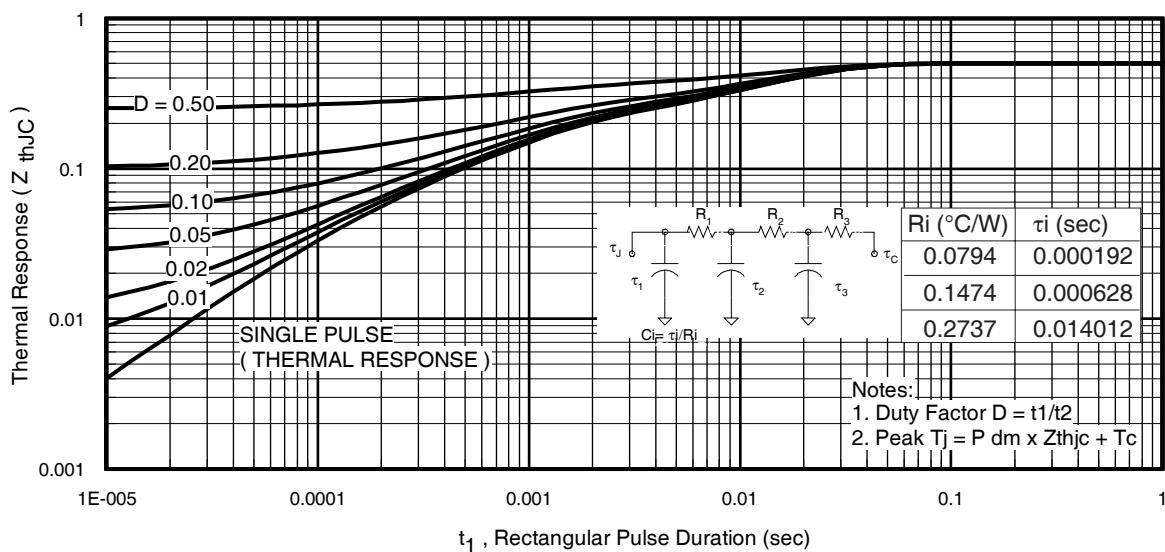
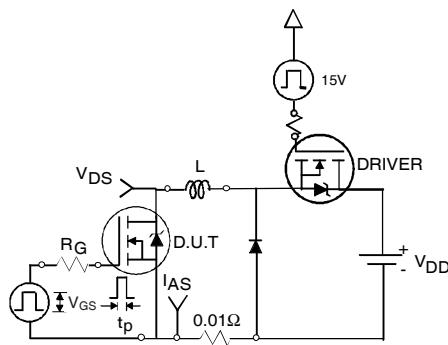

Fig 11. Maximum Effective Transient Thermal Impedance, Junction-to-Case
Fig 12a. Unclamped Inductive Test Circuit
- ① Repetitive rating; pulse width limited by max. junction temperature. (See fig. 11).
- ② Limited by $T_{J\text{max}}$, starting $T_J = 25^\circ\text{C}$, $L=0.043\text{mH}$, $R_G = 25\Omega$, $I_{AS} = 140\text{A}$, $V_{\text{GS}} = 10\text{V}$. Part not recommended for use above this value.
- ③ Pulse width $\leq 1.0\text{ms}$; duty cycle $\leq 2\%$.
- ④ $C_{\text{oss eff.}}$ is a fixed capacitance that gives the same charging time as C_{oss} while V_{DS} is rising from 0 to 80% V_{DSS} .
- ⑤ Limited by $T_{J\text{max}}$, see Fig.12a, 12b, 15, 16 for typical repetitive avalanche performance.
- ⑥ This value determined from sample failure population. 100% tested to this value in production.
- ⑦ This is applied to D²Pak, when mounted on 1" square PCB (FR-4 or G-10 Material). For recommended footprint and soldering techniques refer to application note #AN-994.
- ⑧ R_θ is measured at T_J of approximately 90°C .
- ⑨ Solder mounted on IMS substrate.
3. Equation below based on circuit and waveforms shown in Figures 12a, 12b.
- Z_{thJC}(D, t_{av}) = Transient thermal resistance, see figure 11